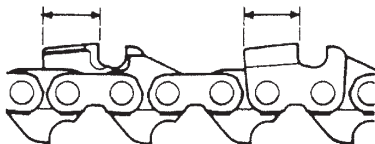

Fig. 46
5) Keep all cutters the same length. (Fig. 46)